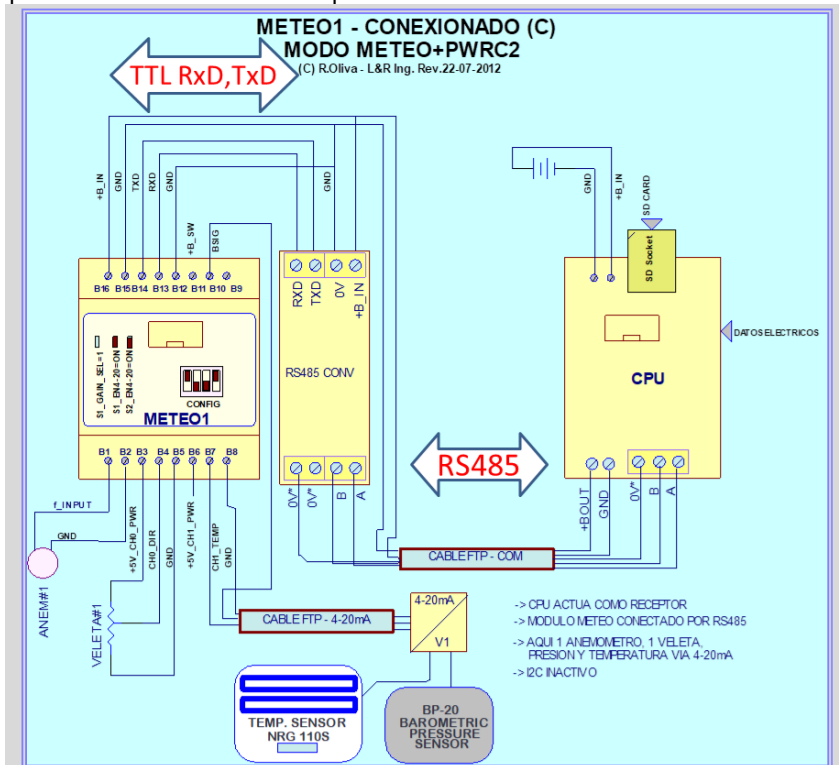
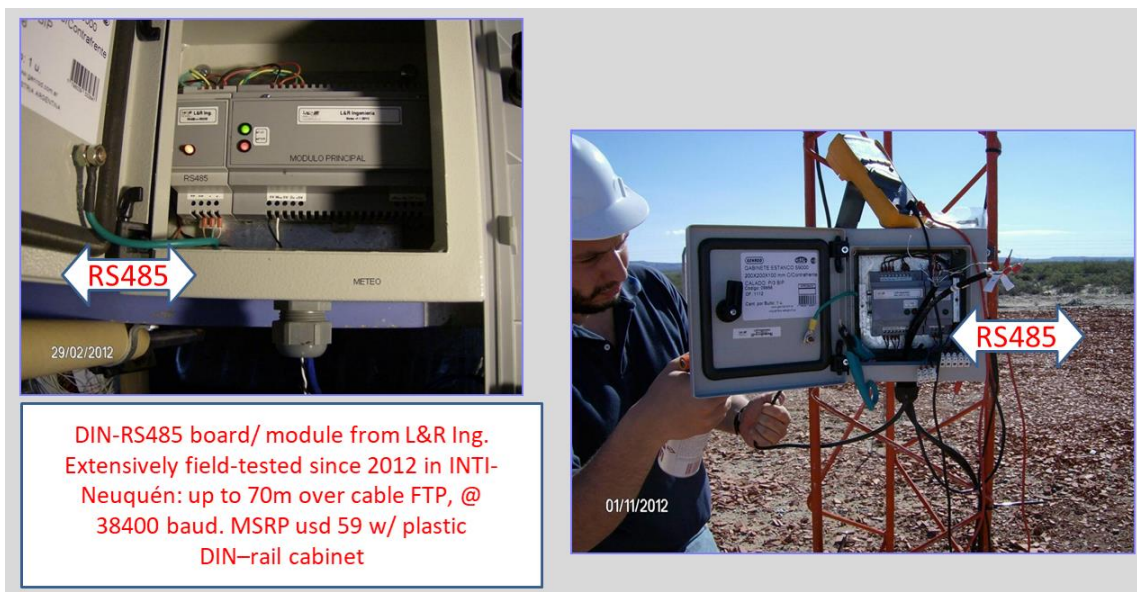

Figure 3 – One of the possible applications – Diagram of DIN-RS485 board serving as link between METEO units and PWRC2 (CL2) SWT-Power Curve Data Loggers
Figure 4 – Deployment of DIN-RS485 board in DIN-rail cabinet with METEO units in Cutral-C6 (Neuquén) Small Wind Turbine Test Site
**4.a INTI-Test Site:** The DIN-RS485 boards, fully designed and built in Argentina with US-sourced components since 2012, have been extensively tested in-field and in laboratory / university applications. In Figure 3 the diagram of one of the possible configurations, converting TTL-level data @38400 baud to RS-485 over shielded FTP cable. In Figure 4 the end-use photograph of the units at INTI-Neuquén small wind turbine test site in Cutral C6, in one case 40 m length and the other 70 m length tower-based placement to main CPU input. Both units are in current operation.
**4.c Connection to different CPU boards:** The DIN-RS485 boards use the same circuitry as the RS485 interface ports on the CL2 (ATMega1284P) [Ref1] and CL3 (STM32F411 Cortex M3) [Ref2] CPU boards, so connection to these units is direct, for example when paired with METEO boards as shown in Figure 3 for the CL2. In Figure 7a and b the connection of a CL3 board (RS485 side) with METEO (TTL side) using a hand-assembled DIN-RS485 board is shown.